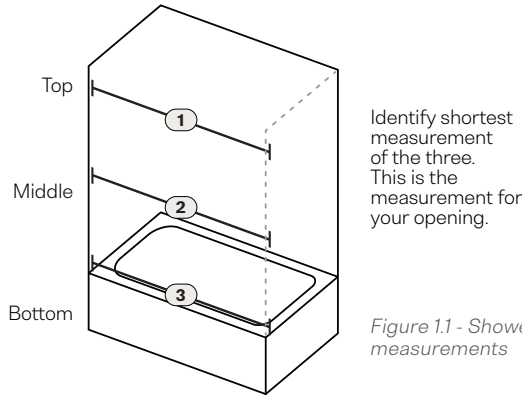

Figure 1.1 - Shower opening measurements
- Compare the three measurements and identify the **Shortest Opening Measurement**. This is the only measurement that should be used for sizing confirmation. (Fig. 1.1)